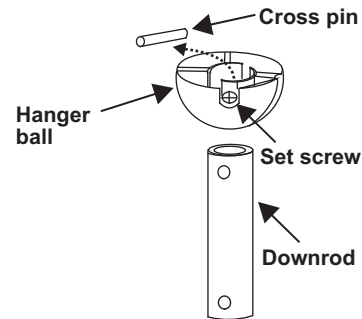

Figure 3
4. Remove hanger ball from down rod assembly by loosening set screws, removing the cross pin and sliding ball off rod. (Fig. 3)